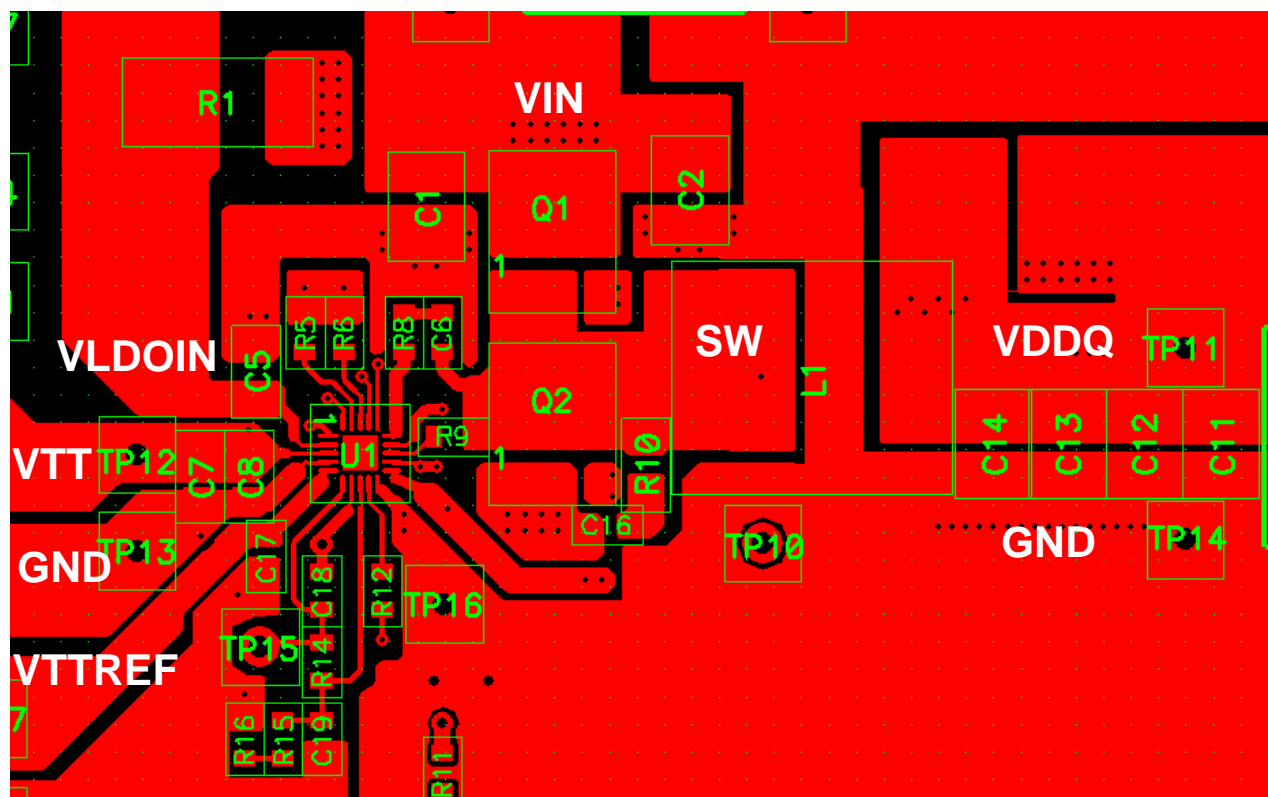

Figure 48. Layout Example
- Connect negative nodes of the VTTREF output capacitor, VREF capacitor and REFIN capacitor and bottom-side resistance of VREF voltage-divider to GND pin as close as possible. The negative node of the VTT output capacitor(s), VTTGND, GND and PGND pins should be connected to system GND plane near the device as shown in Figure 48.